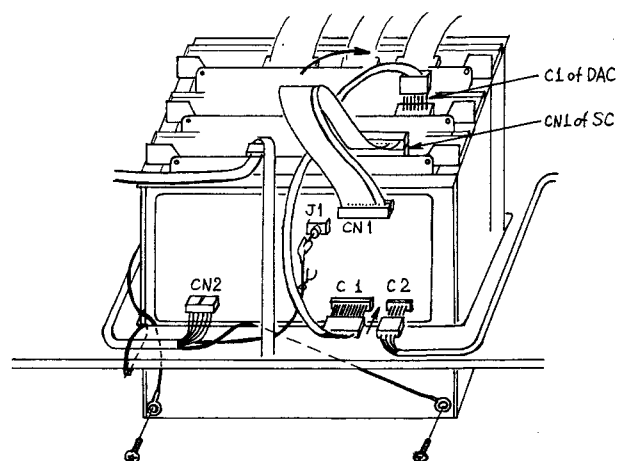

Fig. 6
12. Connect the ground wires to the bottom of the digital circuit cage securing screws, as shown in figure 6.
14. Using the 40 pin flat cable assembly, (ribbed side up, polarity marking on the right when viewed from back of organ) connect to socket CN1 of the AIF circuit board, and to socket CN1 of the "SC" circuit board (see figure 6).
15. Connect the loose end of the 10 conductor cable assembly connected in step #9, to C1 of the AIF circuit board, and to connector C1 of the DAC circuit board (see figure 6).